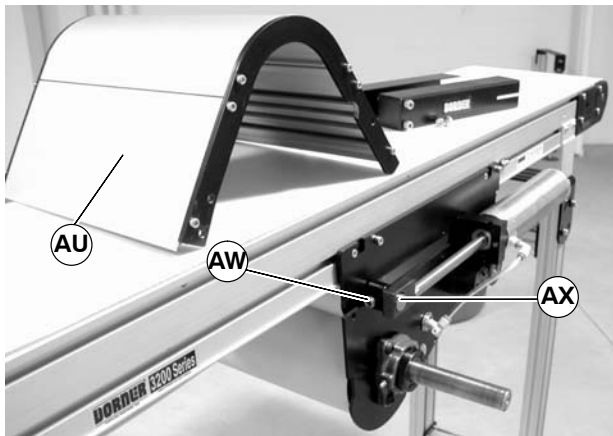
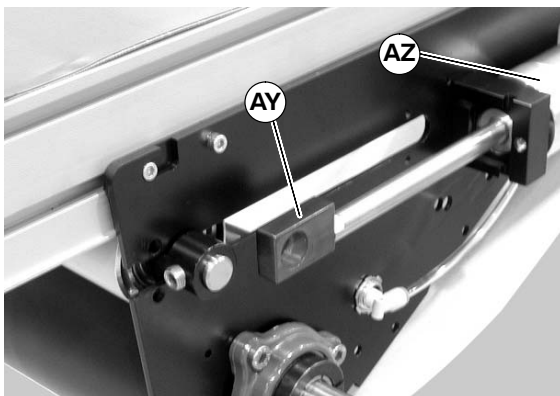

Figure 24
Figure 25
- Loosen tensioning roller set screws (AW of Figure 24).
- Push shaft (AX of Figure 24) through block, slide block (AY of Figure 25) towards air cylinder (AZ).